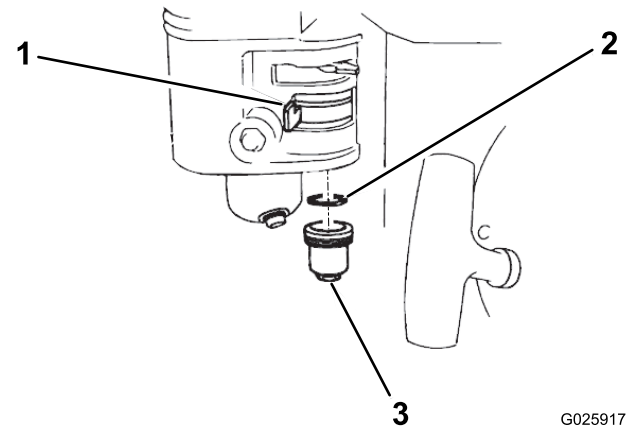

Figure 34
1. Move the fuel-shutoff valve to the OFF position, then remove the fuel sediment cup and O-ring (Figure 34).